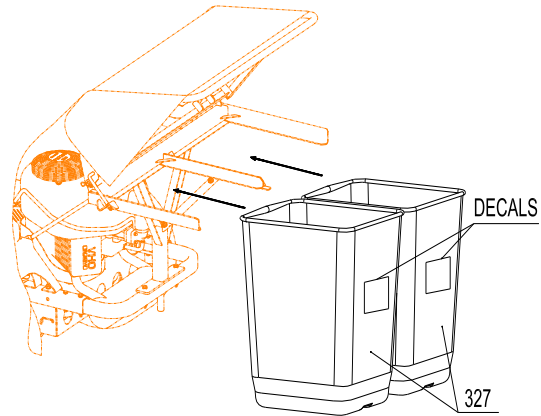

FIG 6
**Note:** Keep decals facing outward. (FIG 6)